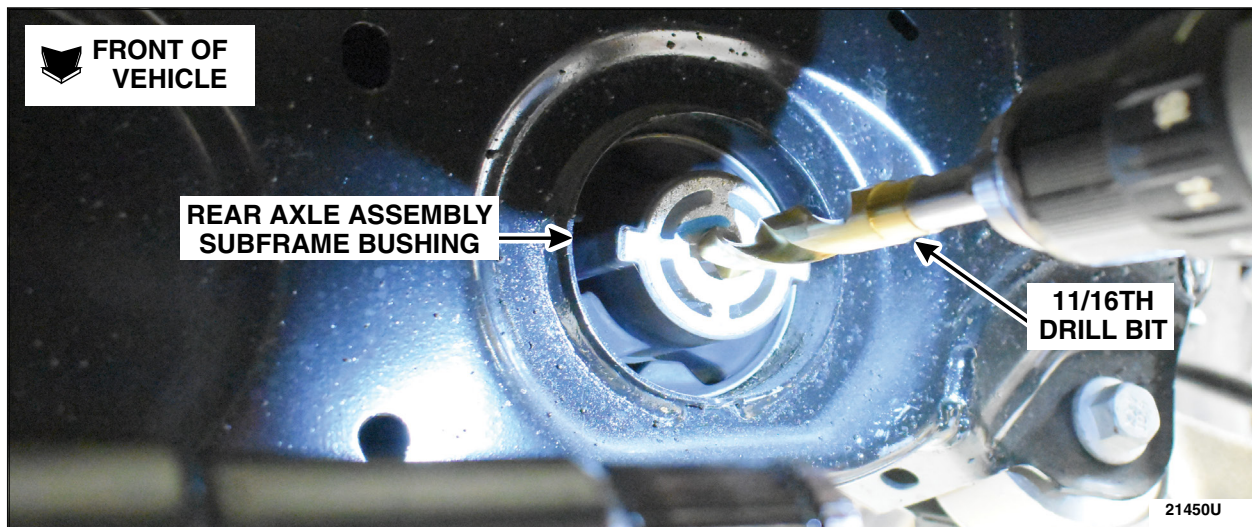

FIGURE 5
10. Using an 11/16th or larger drill bit drill out the rear axle assembly subframe bushing bolt hole. See Figure 5.